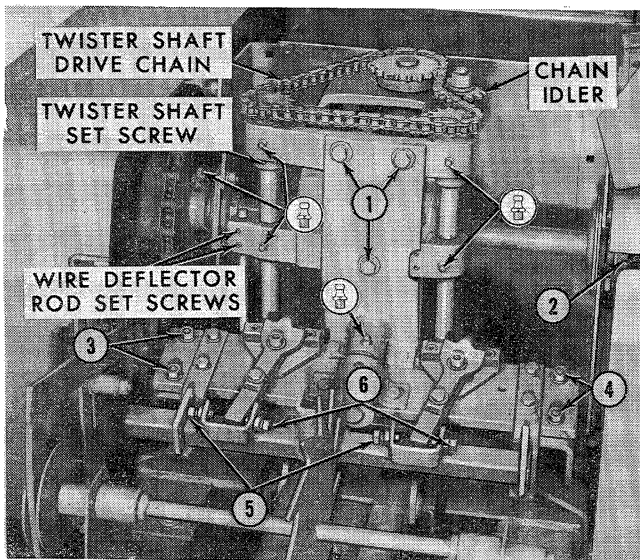

Figure 82
2. If either dimension is incorrect, loosen the twister shaft set screw, Figure 82, on each shaft and raise or lower the shafts as required to obtain the 2-1/4" dimension. Then obtain the 5/8" dimension by rotating the shafts so that the points of the fingers are pointing to the rear of the bale chamber and the notches in the fingers align with the needle slots.
2. Adjust the dimensions, as required, by removing the wire deflector set screws, Figure 82, and moving the rods. Then tighten the set screws.
1. Check the drive chain, Figure 82, by rotating the drive sprocket until the chain is at its tightest point. A slight flexing of the slack strand should exist.
The knives are actuated by the cam and roller driven shuttle bar, Figure 82. With each cycle of the twist-ers, the shuttle bar is shifted laterally. This brings the knife adjusting bolts (5) or (6), into contact with the knives, moving the knives to the opposite side of the knife blocks.
4. If adjustment is necessary, back off the jam nuts on the knife adjusting bolts (5), Figure 82. and adjust the bolts so that the wire will not slip from between the knife and knife blocks, then tighten the jam nuts.
5. Repeat the procedure with a short piece of wire placed between the knife and the right-hand side of the knife block. If required, adjust the knives in the right-hand position with the knife adjusting bolts at (6), Figure 82.
2. If necessary, obtain the dimension by loosening the bolts at (1), (3), and (4), Figure 82, and sliding the mounting platform laterally as required.